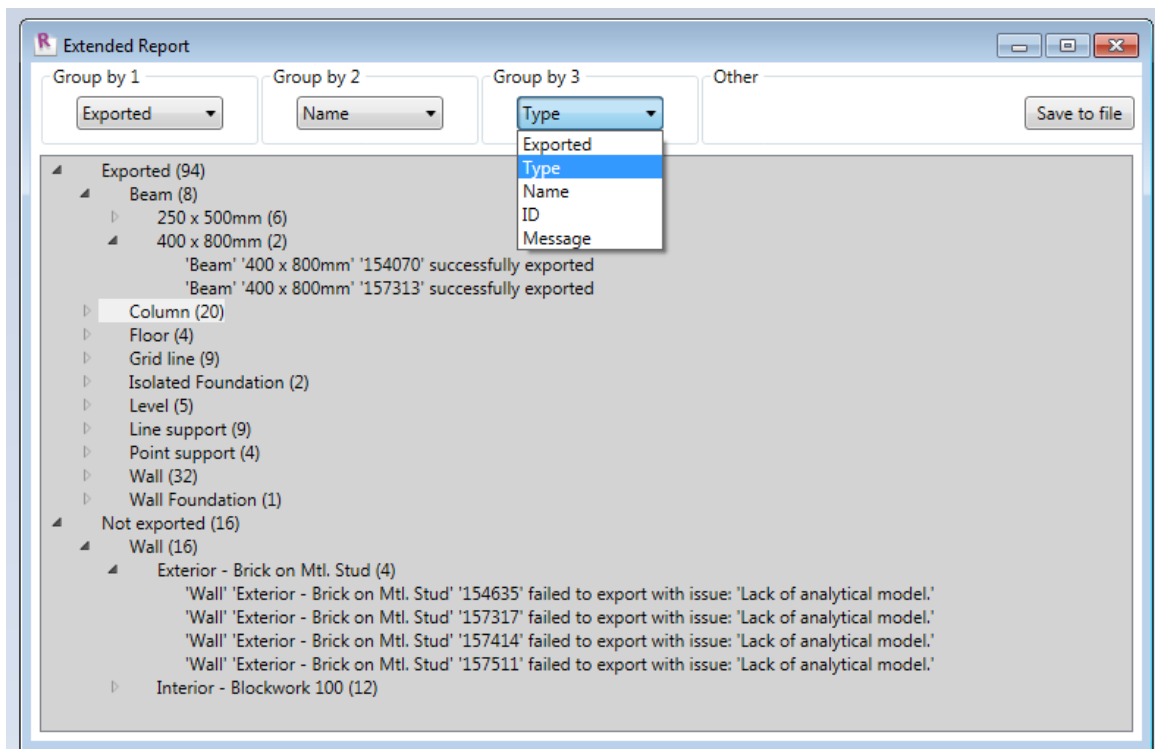

Figure II-54
Figure II-54 shows an example of how the report can be arranged. In the first group, elements are grouped by *Exported* into exported (94 elements) and not exported elements (16). Then elements are grouped by *Name*. There are 8 beams exports, 20 columns, 4 floors, 9 grid lines, etc. There are also 16 walls that were not exported. Finally, the elements are grouped by *Type*.